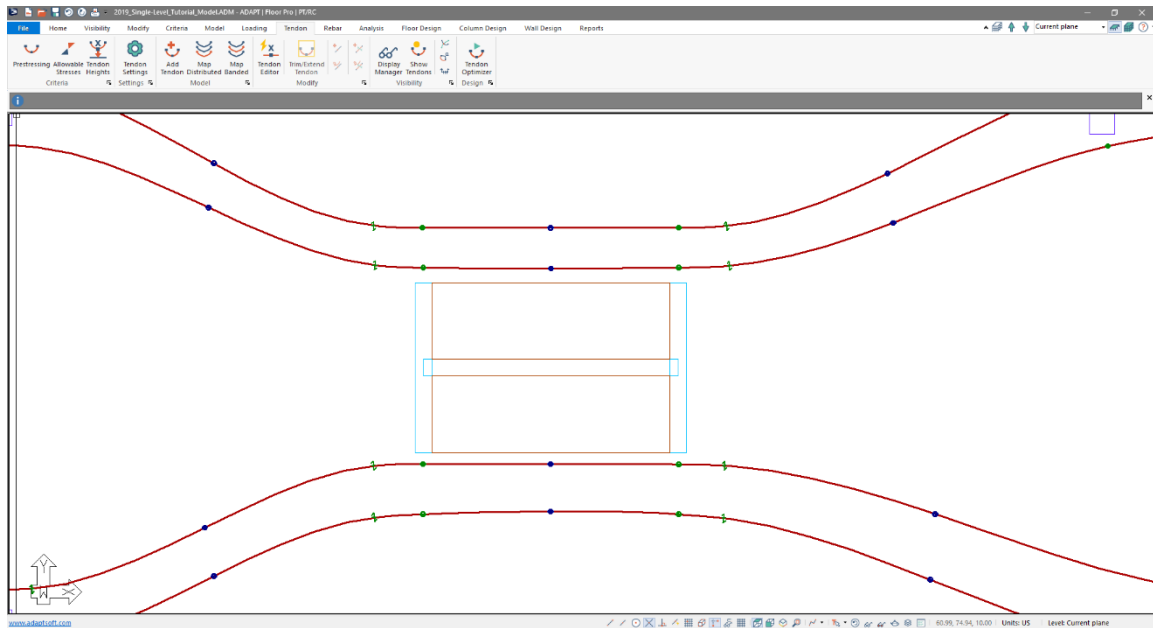

Figure 8-19
- Add swerve points and adjust the same to the third, fourth and fifth tendons from the bottom. In the end your swerve points (green arrows) and tendon high points (brown hexagon), for this area, should be similar to that shown in **FIGURE 8-19**.